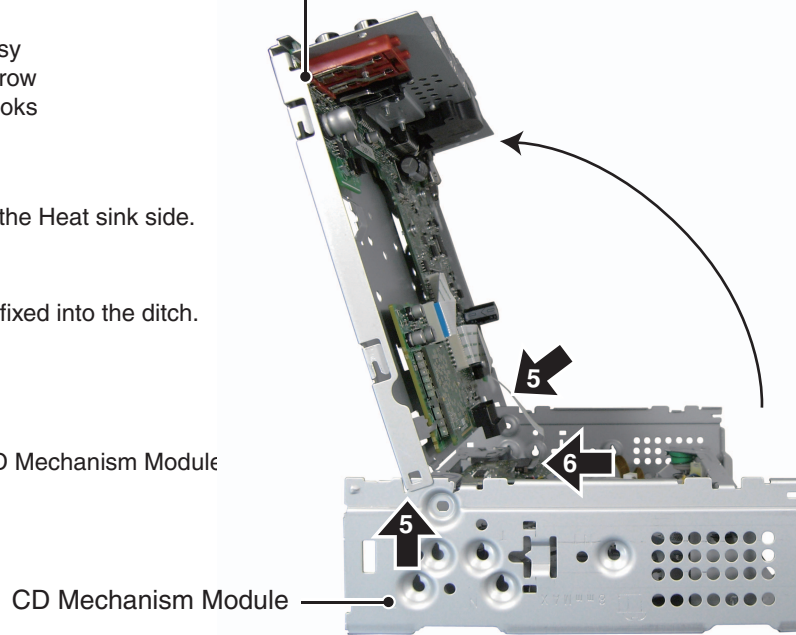

Fig.4
5. Lift the PU unit to disengage it from Part B of the chassis (Fig 4), and remove the PU unit.
(Cautions) When re-installing the PU, be sure to first nip the chassis and the PU unit (Fig 4) at the position B. Also, make sure to fully hook the feeding screw biasing spring (Fig 2a). Please follow the service manual for adjustment of the PU unit after the re-installation.